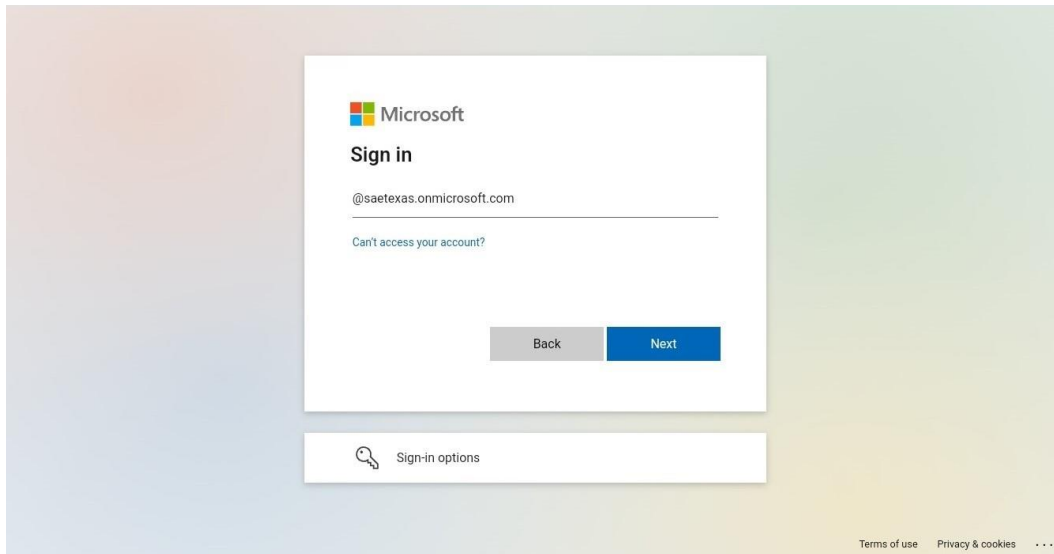

Figure 3
Note that the following sequence of events could vary depending on Azure authentication settings for the corporation. The microsoft authentication Sign in display is now activated as shown in Figure 3.
**Reset PIN** implies reauthenticating the selected user via Microsoft (see Figure 3). **New Login** implies authenticating via Microsoft Azure (see Figure 3). **Selecting a current driver** in the list will prompt the driver for the PIN to do a local authentication.